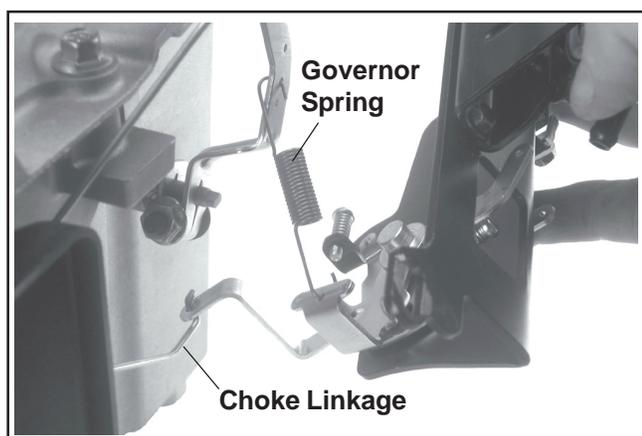

Figure 10-65. Connecting Choke Linkage and Governor Spring.
1. Attach the governor spring to the governor lever and the throttle lever of the speed control bracket, in the original holes. If the holes were not marked during disassembly, refer to the chart in Section 5, Figure 5-23. Connect the choke linkage from the carburetor to the actuating lever of the speed control bracket. See Figure 10-65.